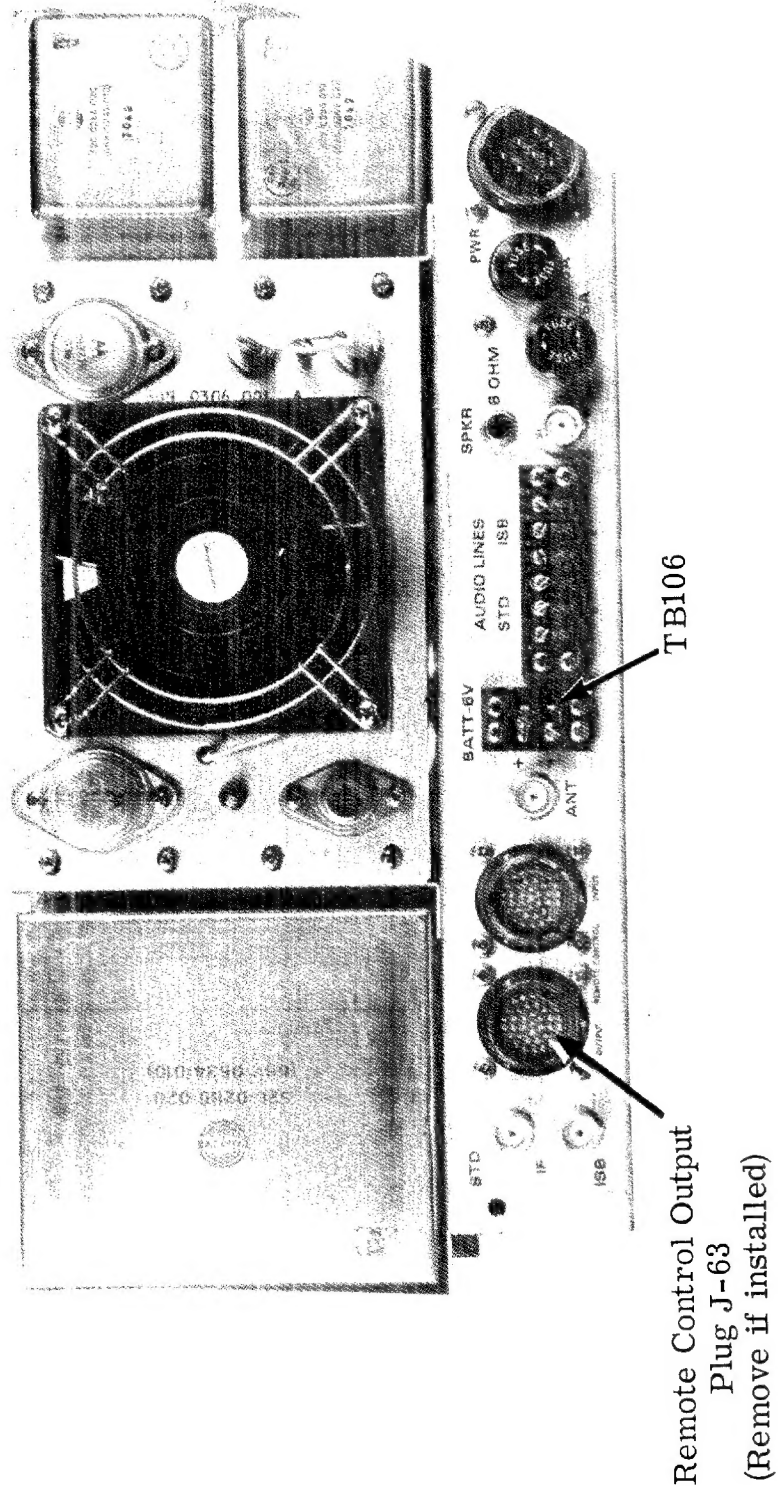

Figure 2 - Rear View of 651S-1
- 4.3 Remove the hole plug in the hole designed for the remote control output plug J-63 on the rear of the receiver. See Figure 2 (Figure 39 - Sheet 1 of 3 - Parts List).
- 4.3.3 Remove the remote control output plug J-63 from the rear of the receiver. See Figure 2. Discard this plug.